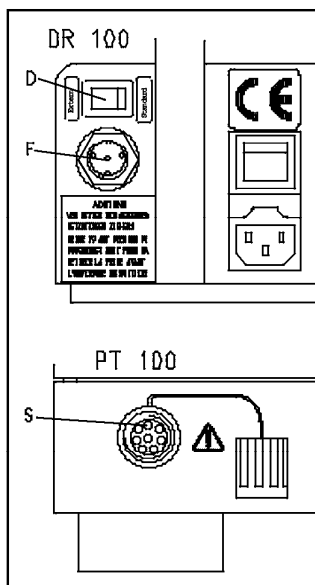

Fig. 10
- Connect the interface **S** in the PT 100 with the interface **F** in the DR 100. **Fig. 10**